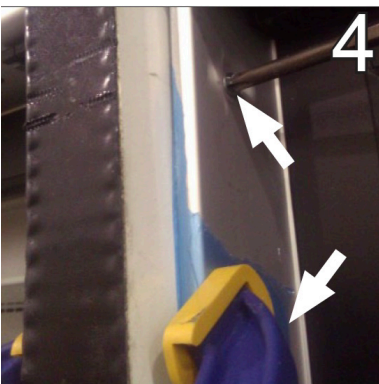

Fig. 72 Clamp to close gap between partition and frame
4. Use a clamp to close the gap between the frame end and the foam partition, which compresses the sealant applied earlier (Fig. 72).